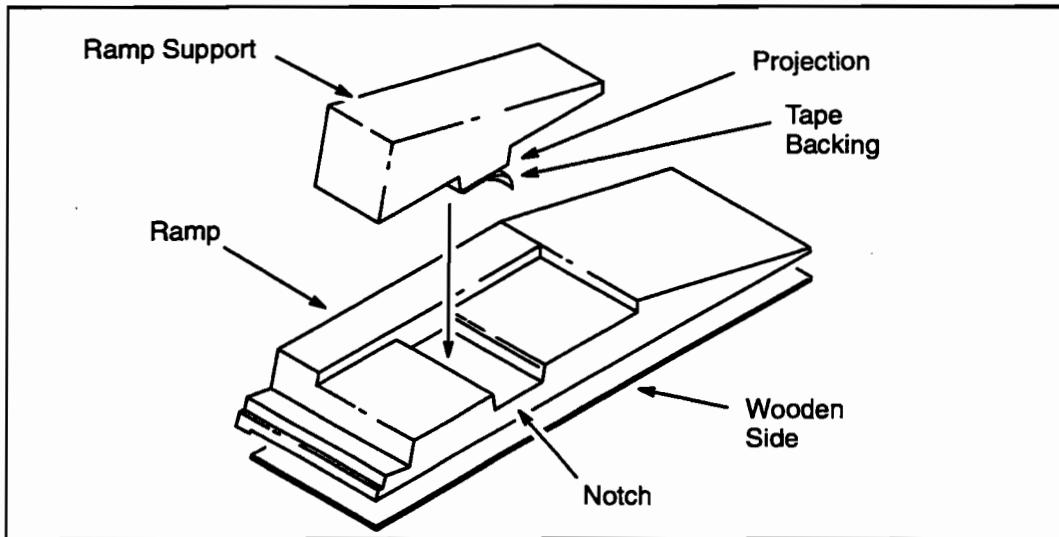

Figure 3-1. Ramp Support Installation
8. Install a ramp support on each ramp; so that the ramp support projection fits into the notch in the ramp. See Figure 3-1.